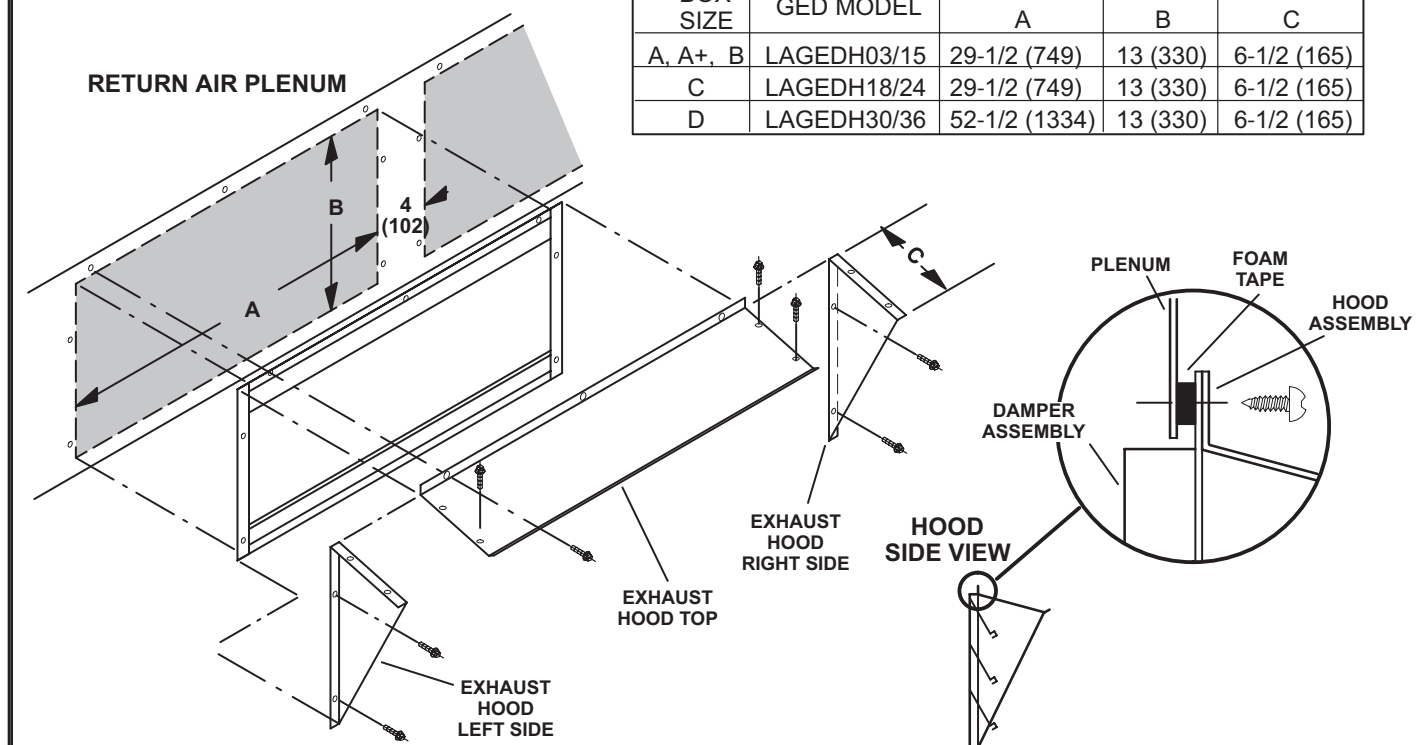

FIGURE 1
- 1 - Cut one opening in return air plenum on A, A+, and B box units and two openings in return air plenum on C & D box units. See FIGURE 1 for dimensions. Make sure opening is centered top to bottom in plenum. On C & D box units, gravity exhaust dampers may be installed either on opposing sides of plenum or adjacent to each other. If adjacent, allow a minimum of 4" (102mm) between the two openings.
- 2 - Secure hood sides to hood top as shown in FIGURE 1.
- 5 - Slide combined LAGEDH assembly into plenum opening and secure using screws provided. See FIGURE 1.